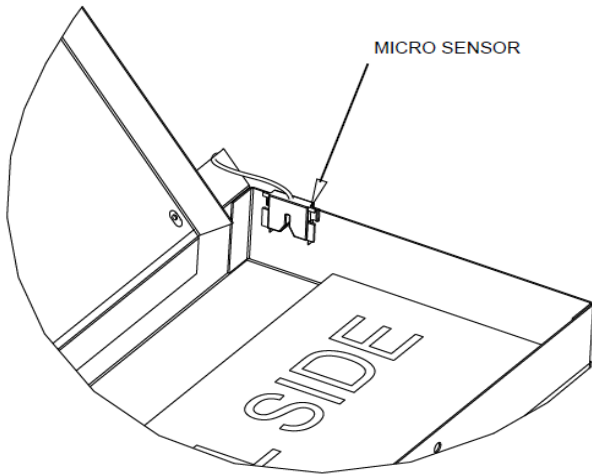

Figure 22
6. Fix the micro sensor on the mounting bracket by sliding the micro sensor onto the drain pan as shown in Figure 22. Adjust depth of the sensor as needed.